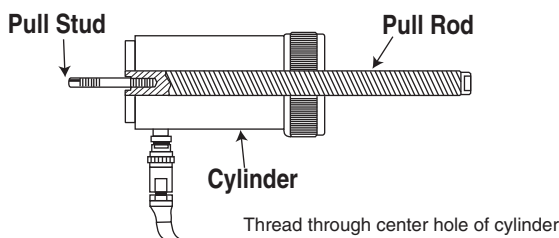

Figure 3
2. Attach the pull rod to the cylinder by inserting the pull stud into the plunger opening and threading until the pull stud extends beyond the coupler end of the cylinder. (Figure 3)